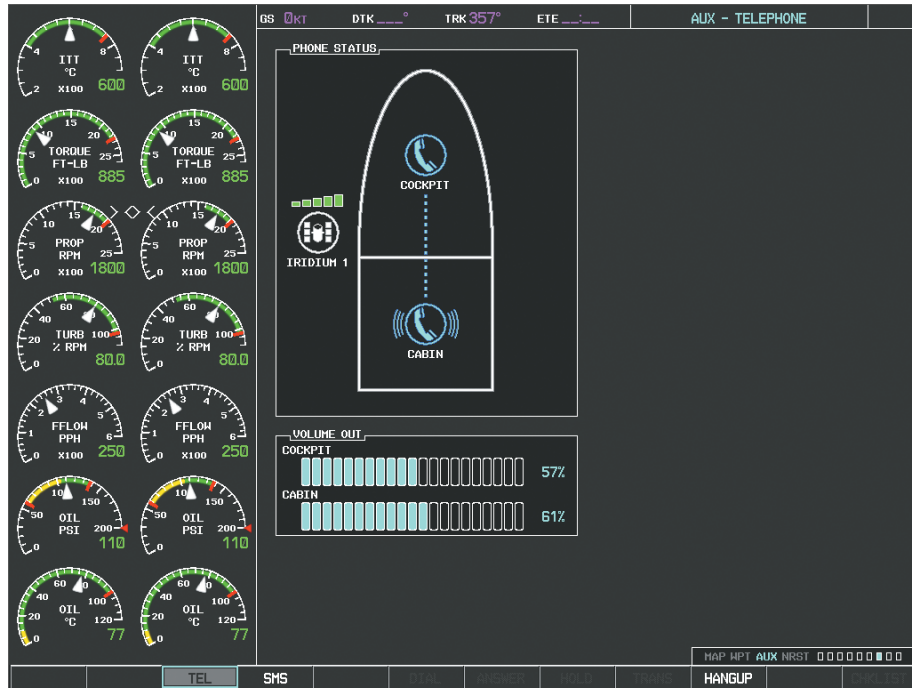

Figure 8-81 Cabin Phone Ringing
- 4) Press the **ENT** Key again. The cabin phone will now ring as seen in Figure 8-81.